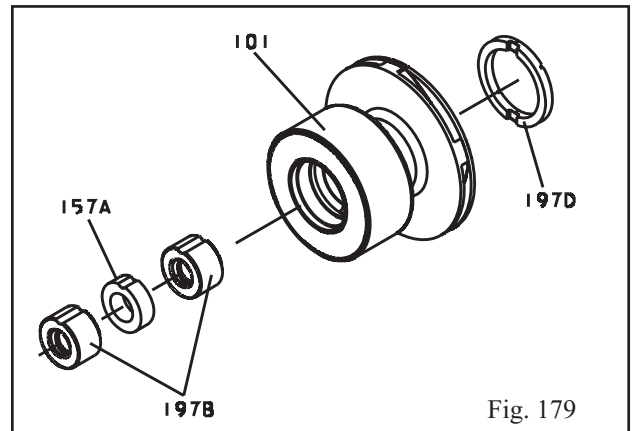

Fig. 179
3. Slide bearing spacer (157A) into impeller (Fig. 179).
4. Press second radial bearing (197B) into impeller (Fig. 179).
5. Turn impeller over and install impeller thrust bearing (197D) lining up tab (Fig. 179).
7. Press shaft (122A) into containment shell (750).